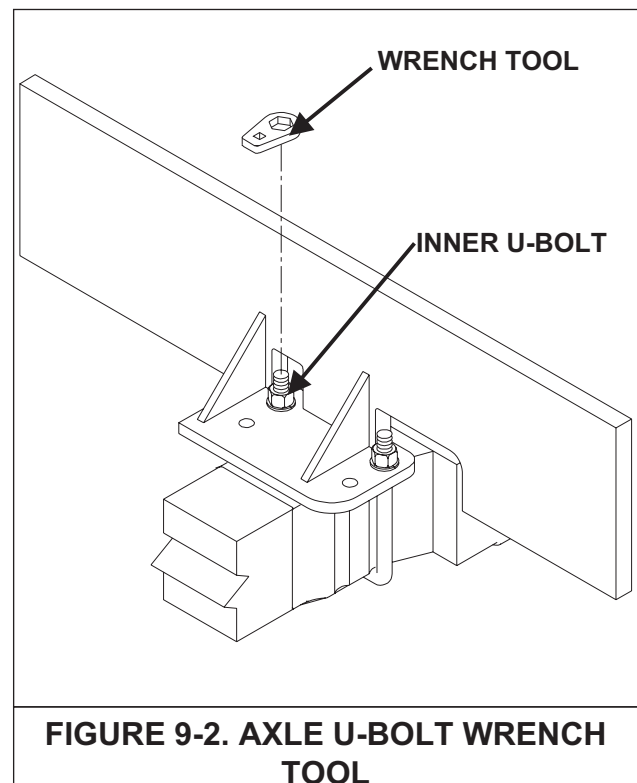

FIGURE 9-2. AXLE U-BOLT WRENCH TOOL
6. Remove axle u-bolts. Remove the outer u-bolts first. After the other ones are removed, used the supplied u-bolt wrench tool and a ½" breaker bar to remove the inner u-bolt nuts. See figure 9-2.